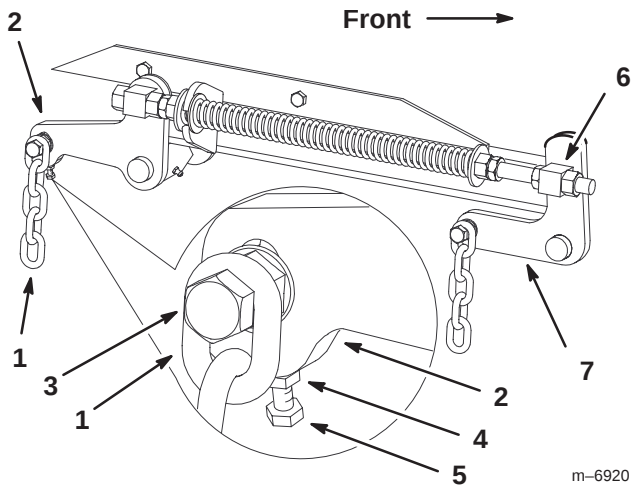

Figure 52
7. If the measurements at positions **B** or **C** are not correct, loosen the bolt attaching the rear chain to the rear support arm (Fig. 52).